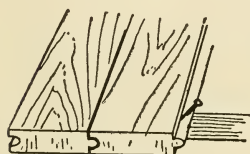

FIG. 32. — Blind-nailing.
**Blind-nailing** is a form of toe-nailing used on tongue and grooved boards in which the heads of the nails are concealed below the surface, as shown in Fig. 32.